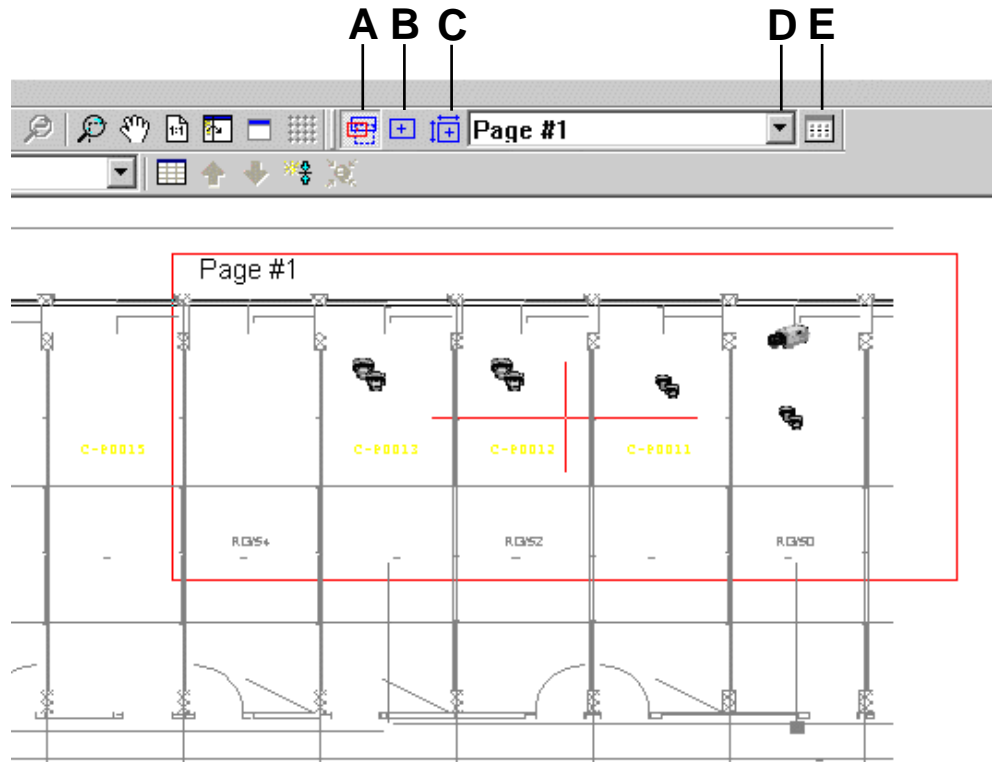

Fig. 20 Manually creating pages
2. Click the Toggle page icon to open page mode. (See “A” in Fig. 20.)
- Select the Create icon (see “B” and “C” in Fig. 20.), and then select an area on the page by dragging the red rectangle.
- Click the Open list icon to display the list of configured pages. (See “E” in Fig. 20.)